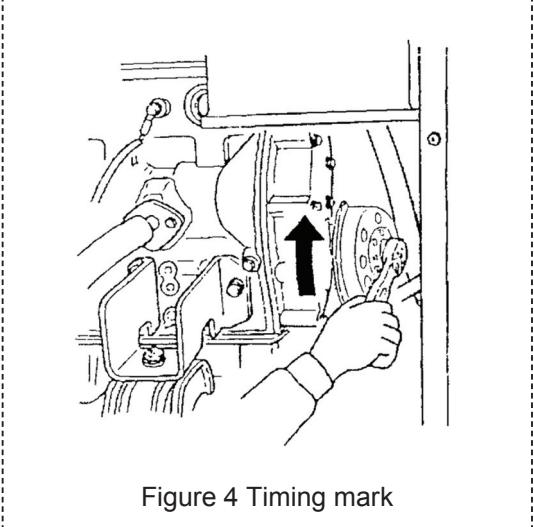
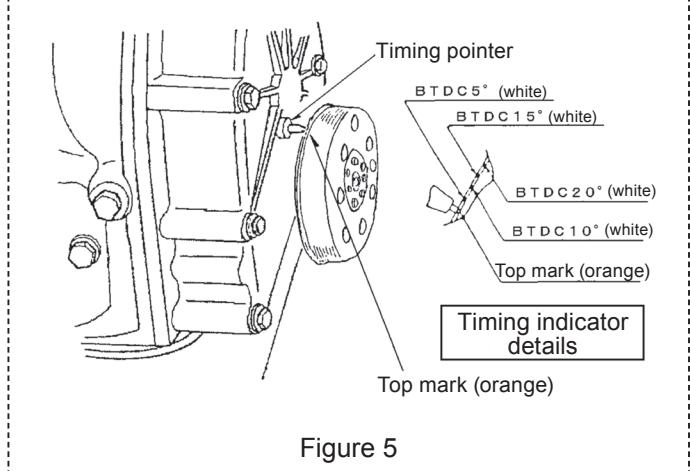

Figure 4 Timing mark
Figure 5
- ④ Position the first or fourth cylinder at compression top dead center.
- 2) Rotate the crankshaft with a socket wrench (ratchet) (Figure 4) until the top mark (orange) on the camshaft pulley is aligned with the timing pointer (Figure 5).
5) After adjustment 3) and 4), turn the flywheel 1 revolution, and again align the top mark (orange) on the camshaft pulley with the timing pointer. If the valves were adjusted first at the first cylinder TDC position, adjust the remaining valves with the ○ mark in Table 1. If the valves were adjusted first at the fourth cylinder TDC position, adjust the clearance of the remaining valves with the ● mark in Table 1 (Figures 5, 6, 7).